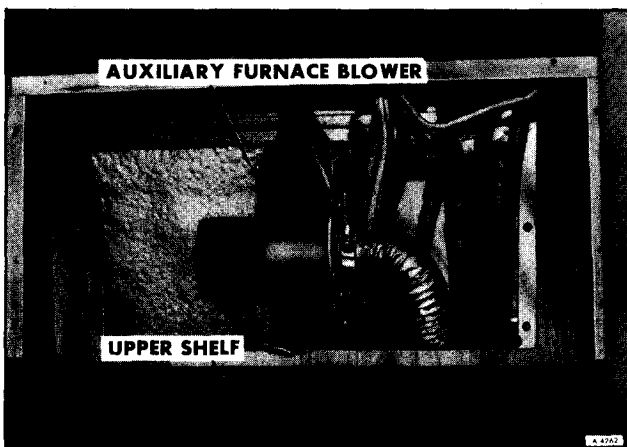
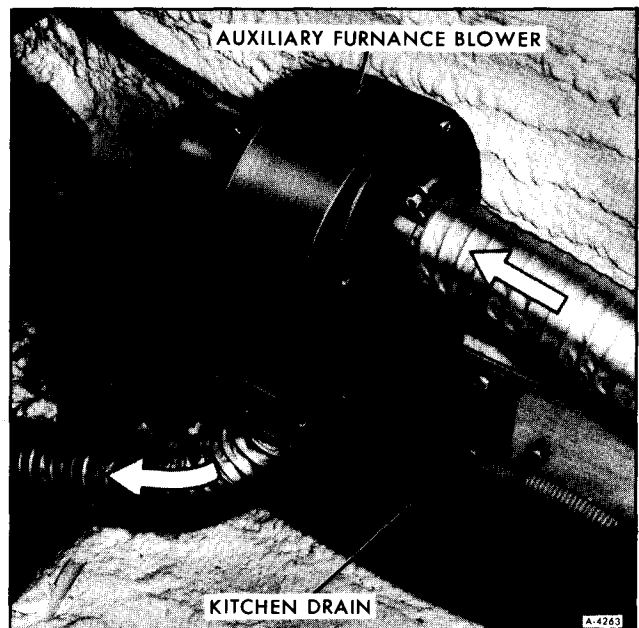

Figure 32—Auxiliary Furnace Blower (Located in Closet Module)
Figure 33—Auxiliary Furnace Blower (Located Behind Range/Oven)
NOTE: If bathroom warm air outlet is located beside shower head the auxiliary furnace blower is located in the closet module (See figure 32) if warm air duct is located on wall below bathroom sink the auxiliary furnace blower is installed behind the range/oven (figure 33).
- a. If blower is located in closet module, open upper door beside closet. Remove rear panel in compartment (See figure 32).
b. If blower is located behind range/oven (See figure 33), remove range/oven. To remove range/oven refer to Section 24H for detailed procedures.